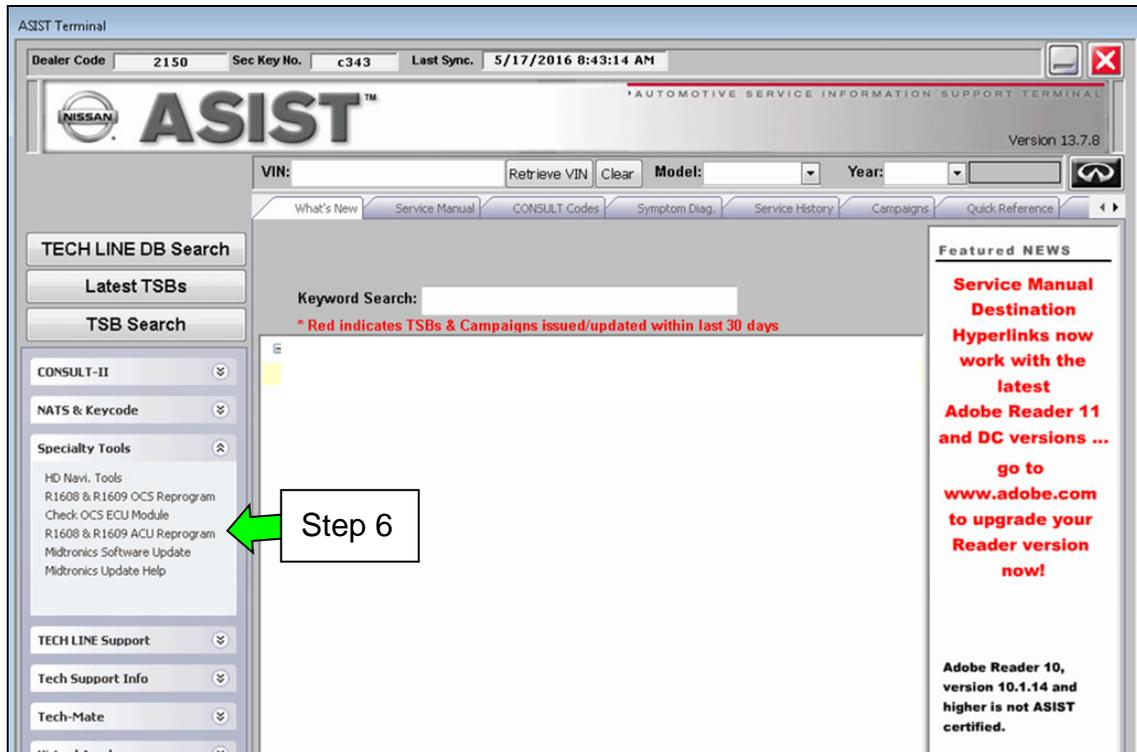

Figure 11
6. Select “R1608 & R1609 ACU Reprogram” on ASIST under Specialty Tools (Figure 11).